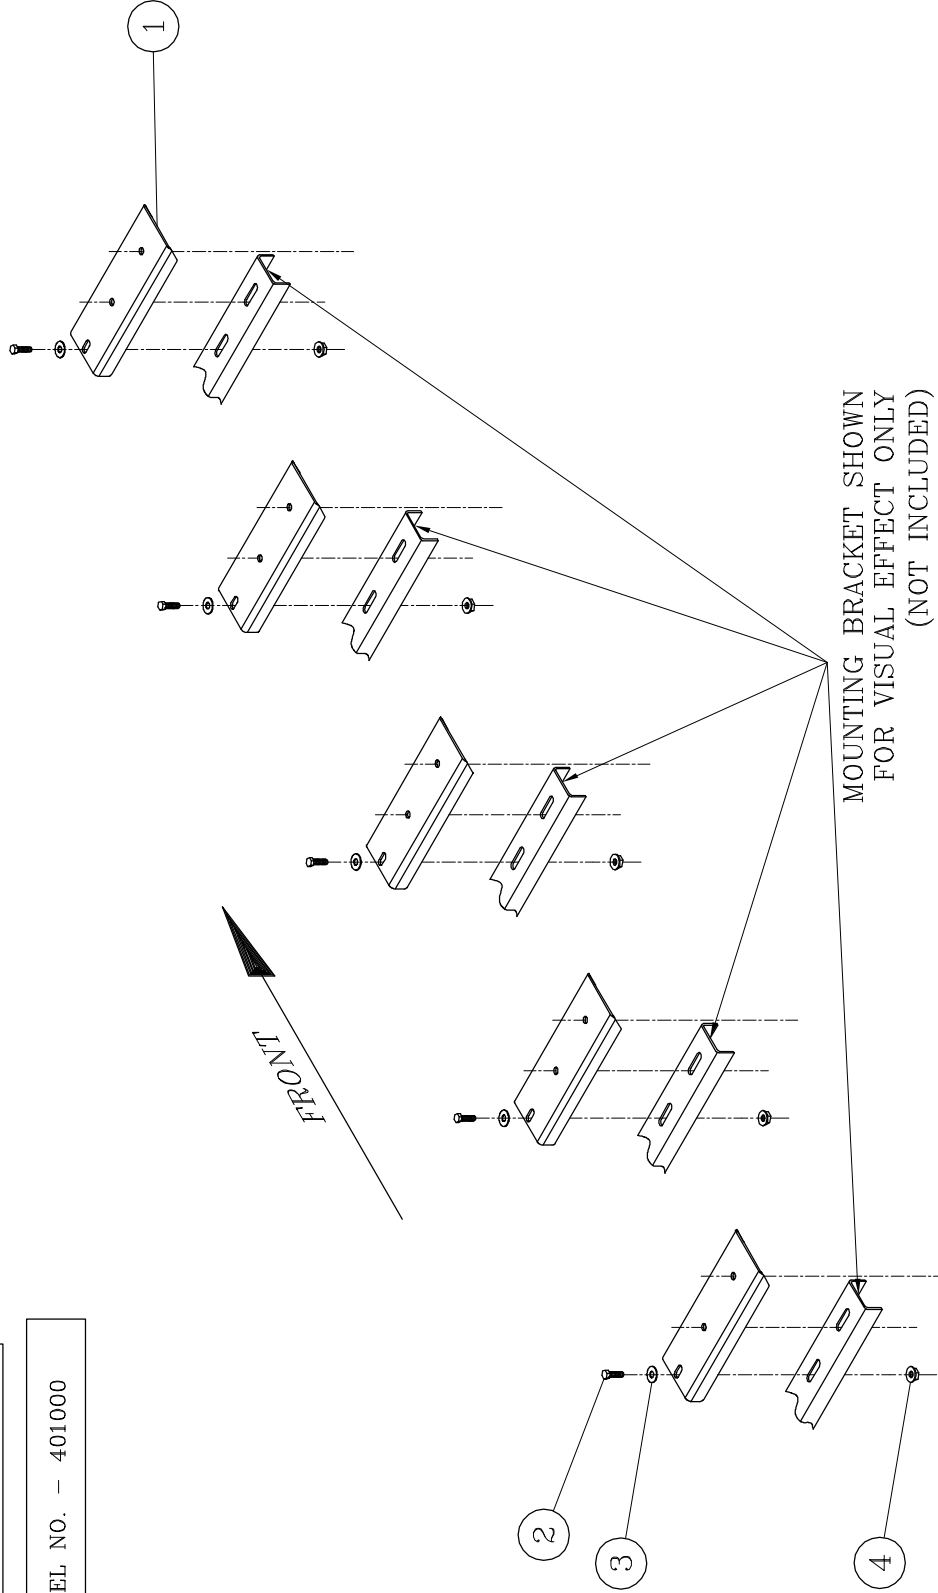

FIG. 1
2. ATTACH THE EXTENSION BRACKETS TO THE MOUNTING BRACKETS AS FOLLOWS: (SEE FIG. 1)